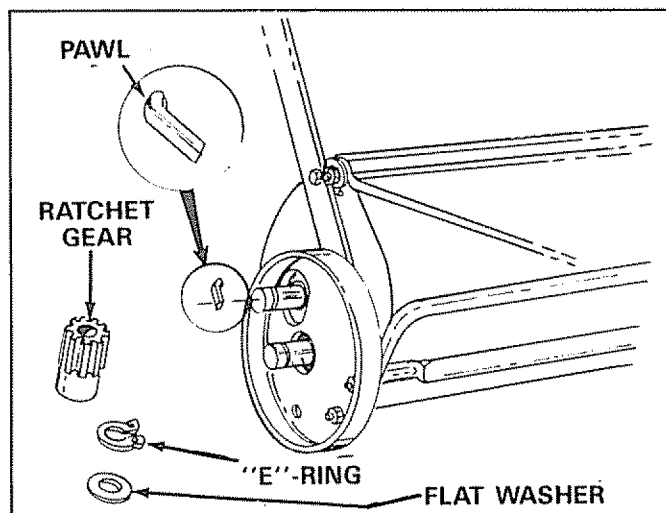

FIGURE 33
2. The pawl, inside ratchet gear, has a curved end side and a flat end (side). See figure 33. When re-assembling ratchet gear and pawl, fill the inside with grease. Re-assemble the wheel and turn wheel, if the brushes drive (rotate) in both directions, the pawl is assembled **incorrectly**, remove and flip pawl over. If the brushes drive (rotate) in one direction the pawl is assembled correctly.